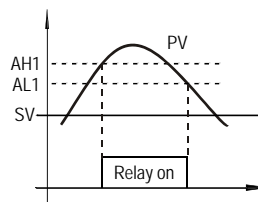
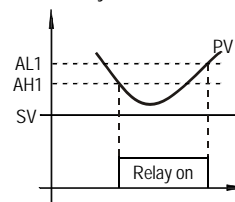

Figure 5. Absolute high alarm
Figure 6. Absolute low alarm
**Note 13.** Alarm setting. The J1 relay is controlled by parameters AH1 and AL1. And the J2 relay is controlled by parameter AH2 and AL2. AH1 (or AL2) is the temperature to turn the J1 (or J2) relay on; AL1 (or AL2) is the temperature to turn the J1 (or J2) relay off. When  $AH1 > AL1$  (or  $AH2 > AL2$ ), the J1 (or J2) alarm is set for absolute high alarm as shown in Figure 5 below. When  $AH1 < AL1$  (or  $AH2 < AL2$ ), the J1 (or J2) alarm is set for absolute low alarm as shown in Figure 6 below. When  $AH1 = AL1$  (or  $AH2 = AL2$ ), the J1 (or J2) alarm is deactivated.